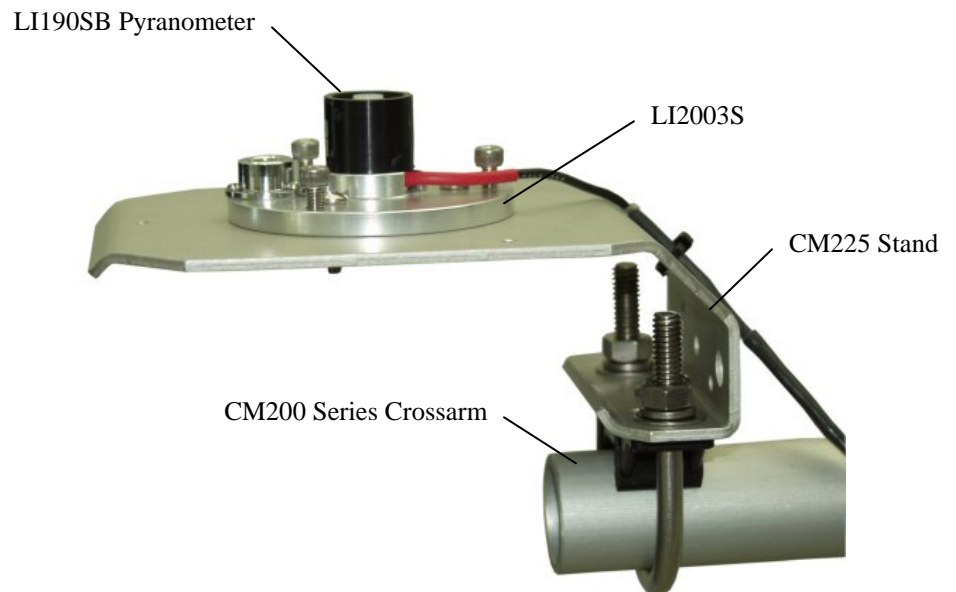

FIGURE 3-1. CM225 Pyranometer Mounting Stand and CM202 Crossarm
To ensure accurate measurements, the LI190SB should be mounted using LI2003S base/leveling fixture. This base incorporates a bubble level and three adjustment screws. The LI190SB and base/leveling fixture are attached to a tripod or tower using one of three mounting configurations (see Figure 3-1 through 3-3).
- 1/2" open end wrench for 015ARM or CM225 (Figures 3-1, 3-2)